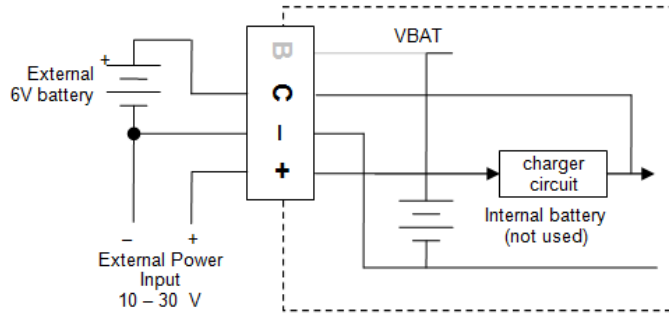

Figure 123: Connecting an external 6V battery – battery link removed
- not connecting the battery link between the **B** and **C** terminals (Figure 123), or